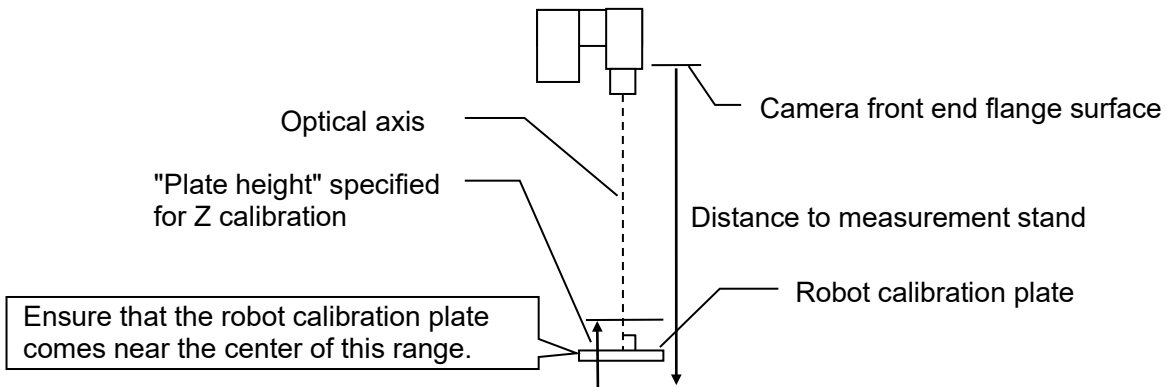

Fig. 7-76 Distance to robot calibration plate
Do not change the height of the camera lens and the robot calibration plate for teaching of the calibration postures (2) to (6) from the height used for the posture (1). For the calibration postures (7) and (8), ensure that the height of the robot calibration plate is kept within the range shown in Fig. 7-76.
- (1) to (5): Move the XY-axis and align with the teaching guide. Do not change the A, B, or C components.
(7), (8): After moving the B-axis ±20°, move the XY-axis to align it with the teaching guide.
- For teaching of the calibration postures (2) to (6), do not change the Z component for the position taught at the posture (1). For the calibration postures (7) and (8), ensure that the height of the robot calibration plate is kept within the range shown in Fig. 7-76.
- When teaching the calibration postures (2) to (8), it is easy to align the calibration jig with the teaching guide by jog operation after moving to the position of the taught calibration posture (1).
- With the calibration postures (7) and (8), tilt the robot by approximately 20°, if there is sufficient space within the movement range. Tilt by approximately 15°, however, if the robot movement range is insufficient.